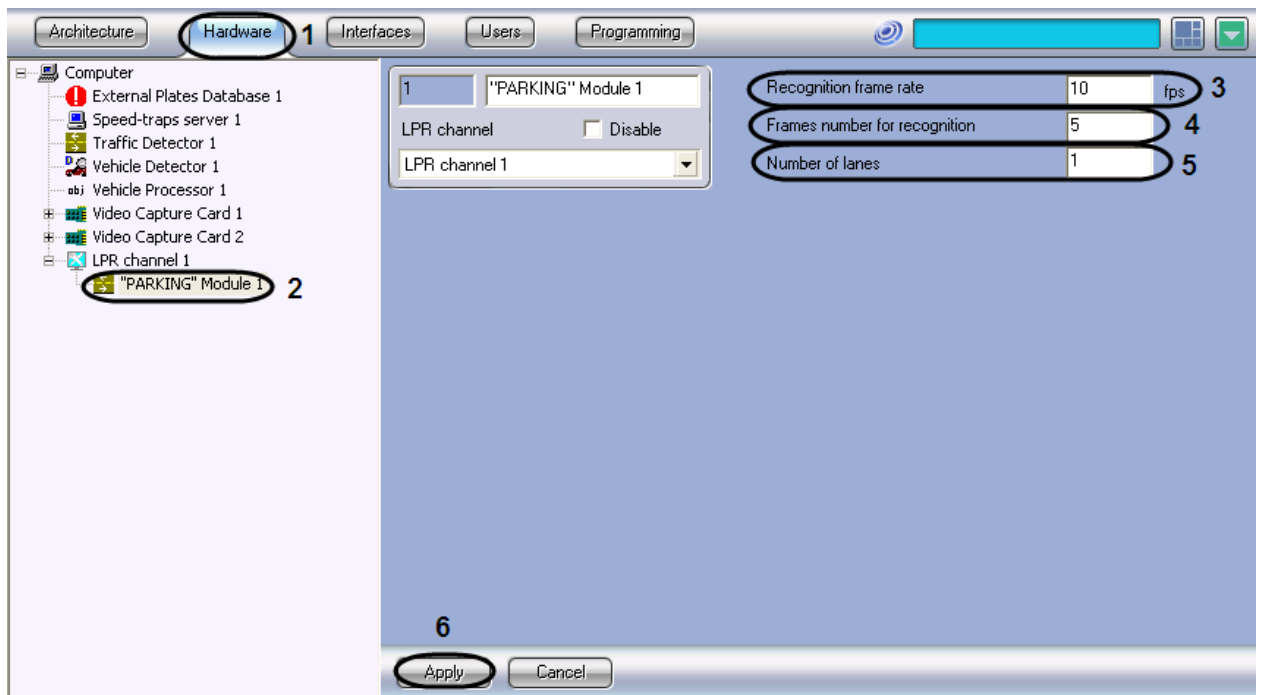

Fig. 7.2—5 Setting up the CARMEN-parking program module
2. In the objects tree on the Hardware tab select the CARMEN-parking object, corresponding to the set CARMEN-parking program module (Fig. 7.2—5, 2). The settings panel of the selected object will open on the right side of the window.
3. In the «Recording frame rate» field enter the value of recording frame rate per second (Fig. 7.2—5, 3).
4. Enter the value in the «Frames number for recognition» field (Fig. 7.2—5, 4).